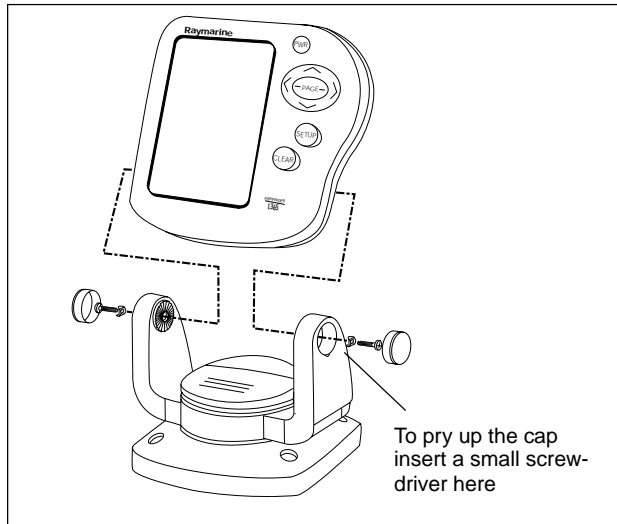

Fig. 2-12
6. Separate the display unit from the mounting bracket. (See Fig. 2-12.) Press the large button in the center of the bracket to separate the bracket arms. The display unit is attached to the arms by two screws. Each screw is covered by a cap. Locate the small slot beside each cap and pry upward using a small screwdriver. Remove the caps, then the two screws and the two wave washers. Save these parts in case you ever want to use the mounting bracket.